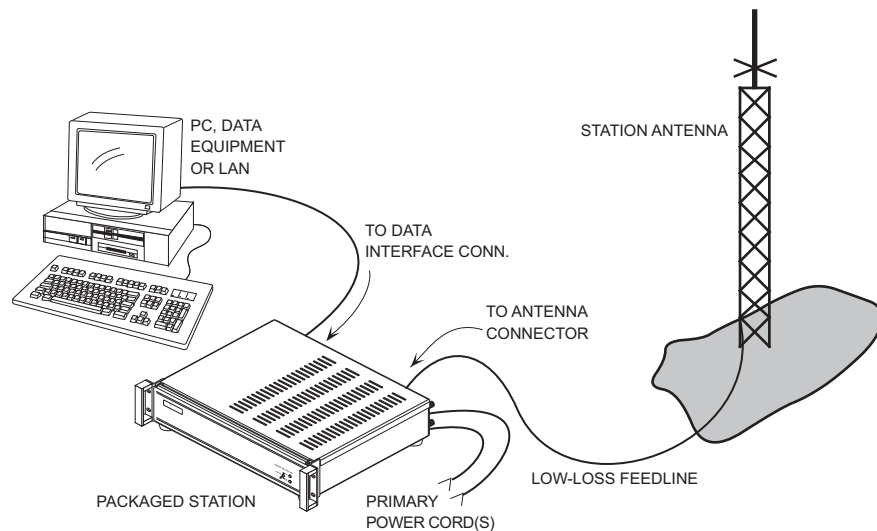

Figure 2. Typical SDxP Series Installation
The Protected Network Station is typically installed at an Access Point (AP) site to ensure uninterrupted communication with remote radios. Figure 2 shows a typical installation arrangement.